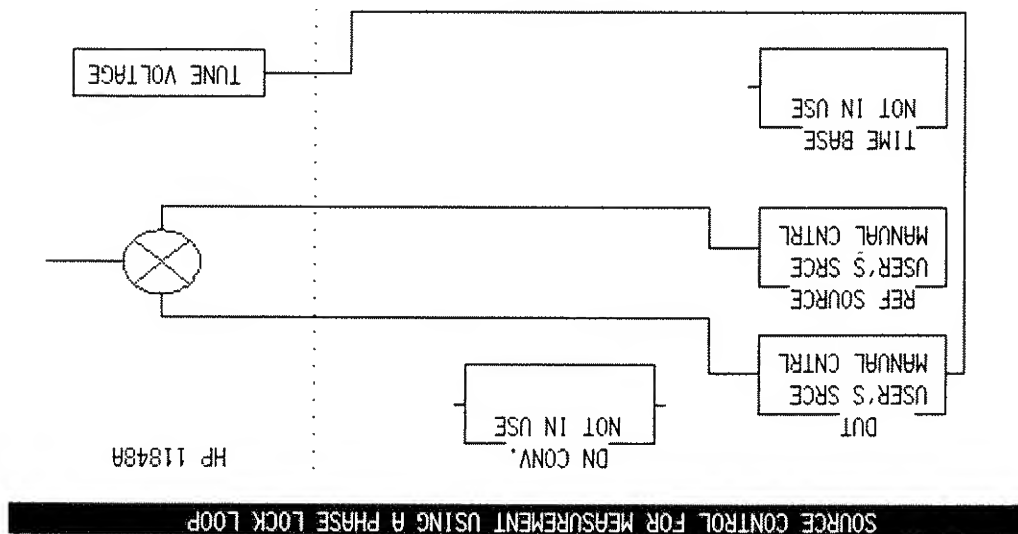

Figure 3-11. Source Control for Measurement Using a Phase Lock Loop Menu
9. On the HP 3048A press the **Source Control** softkey to obtain the Source Control for Measurement Using a Phase Lock Loop menu. Set the various devices in the system as shown in figure 3-11. When done, press the **DONE** softkey.